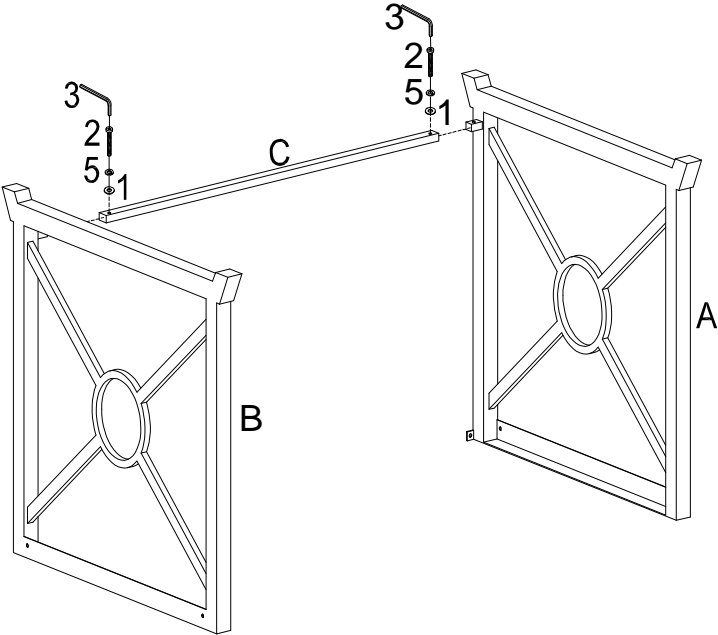

Figure 1
Insert bolts (2) through spring washers (5) and flat washers (1) to connect assembled unit from figure 1 to top frame (D).